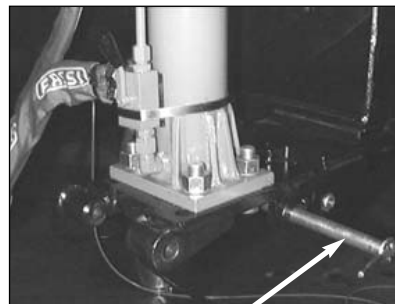

fig. 36
- Remove the check pin and release the pin (Fig. 36)